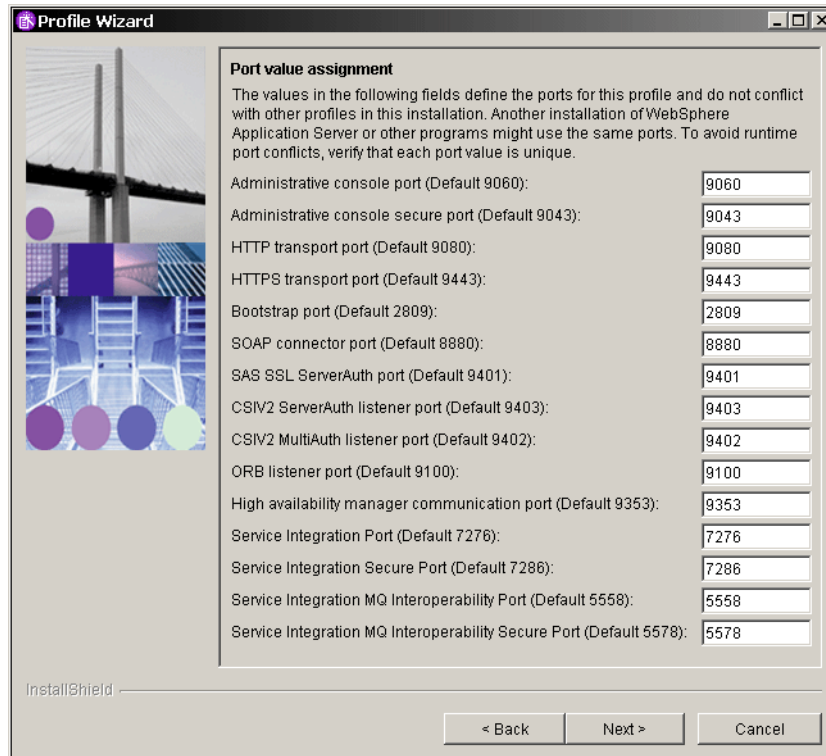

Figure A-16 WebSphere Process Server: Ports
- ▶ Enter the port numbers. If you have other WebSphere servers on the machine the numbers are increased automatically. If you plan to only run one server at a time, then you can reset all the port numbers to their defaults (Figure A-16).